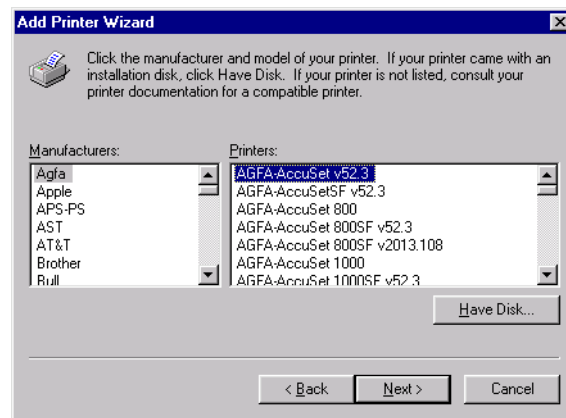

Figure B-11: Selecting a Printer
3. Click the name of the printer manufacturer and model. Read and follow any other instructions displayed in the dialog box (Figure B-11).